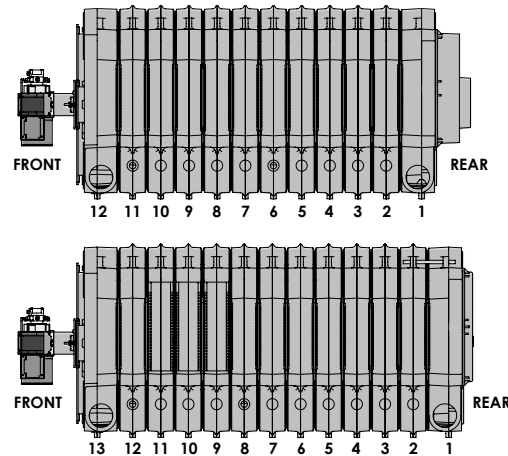
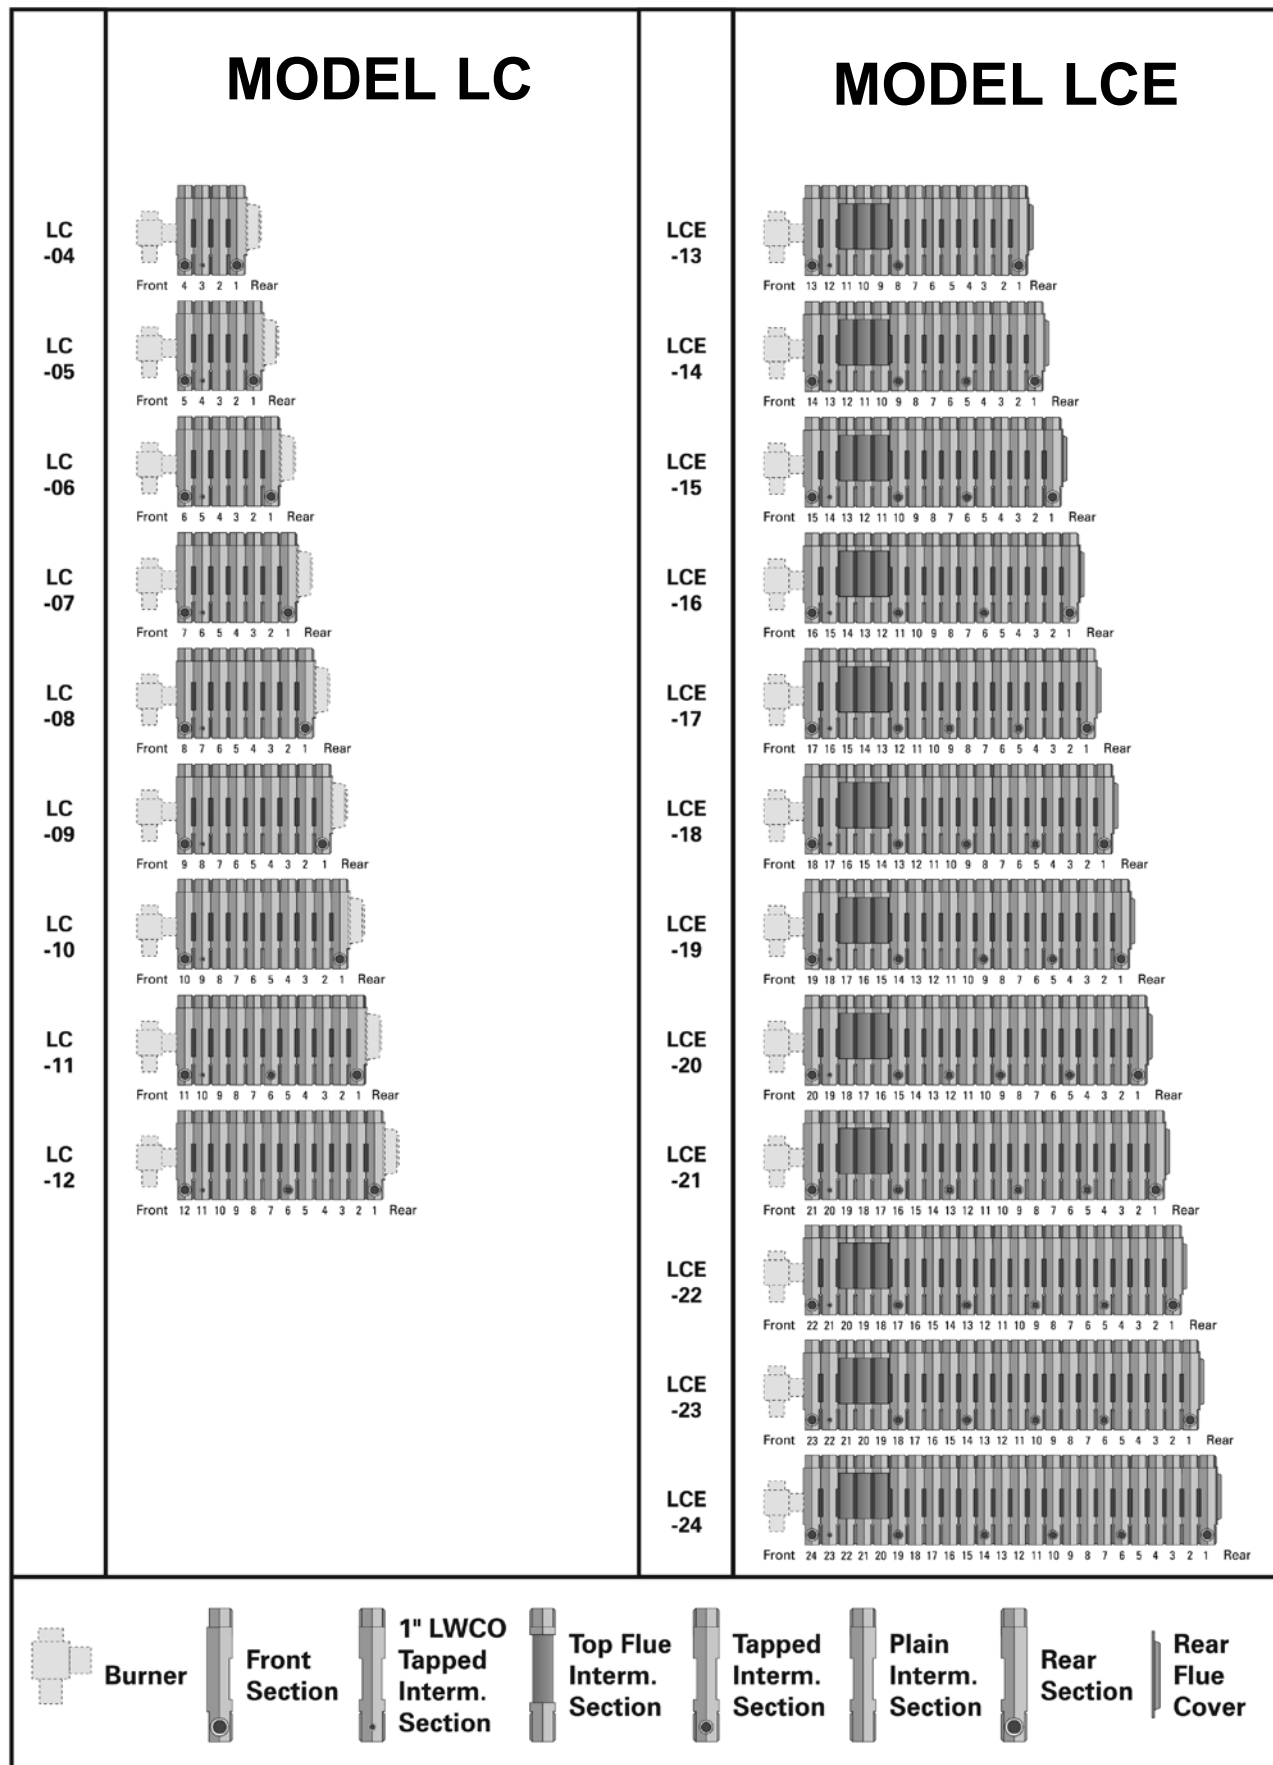

Figure 2.8: Section Positioning Numbering
Figure 2.9: LC/LCE Boiler Section Assembly Sequence
- Place the Intermediate Section with 3" top tapping (Tapped Intermediate) in the position given in Figure 2.9.
- LCE ONLY. Save the (3) Top Flue Outlet Intermediates (with wide opening in top of the flue collector) for use as the sections closest to the LWCO Intermediate Section. See Figure 2.9.
- Three (3) Top Flue Outlet Intermediates
- The remaining intermediate sections are 3" Tapped Intermediates or Plain Intermediates as shown in Figure 2.8 and Figure 2.9.